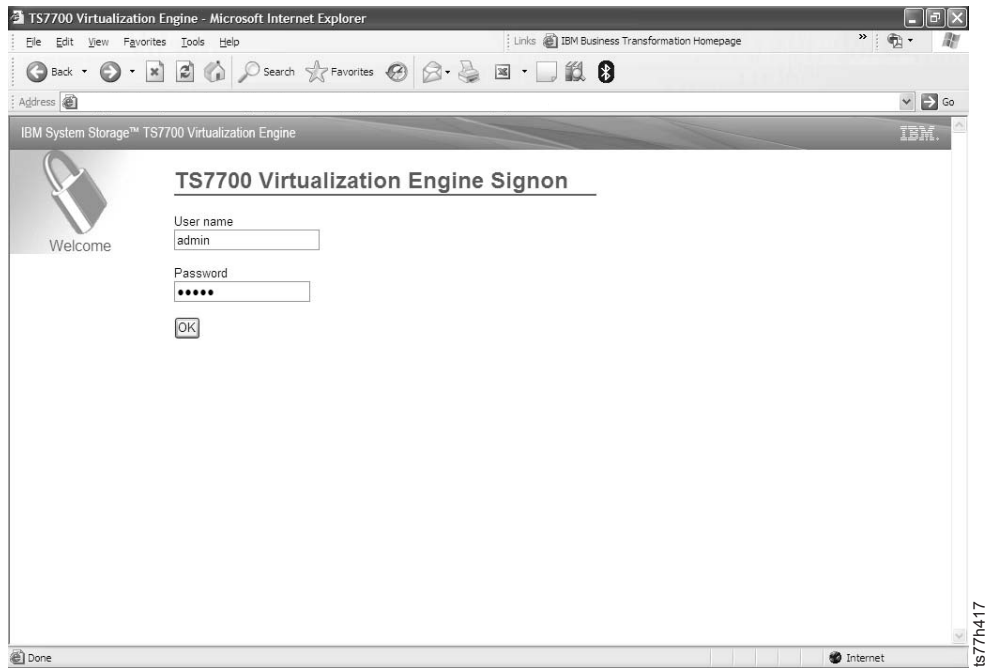

Figure 27. TS7700 Virtualization Engine Signon
2. At the **TS7700 Virtualization Engine Sign on** screen, enter the userid and the password to log on to the TS7700 Virtualization Engine, and select **OK**, as shown in Figure 27 on page 89.